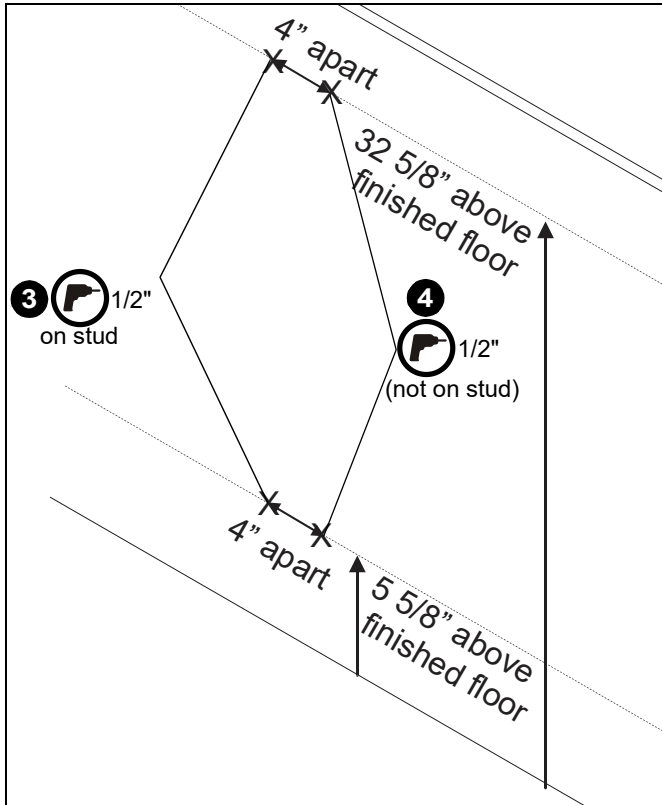

Figure 19
1. Measure $5 \frac{5}{8}$ " off the finished floor to mark lower mounting locations and $32 \frac{5}{8}$ " off the finished floor for upper mounting locations with one of the locations being centered on stud. Holes must be 4" apart horizontally. (See Figure 19)
2. Mark hole locations at each mounting location. (See Figure 19)
3. Drill two $\frac{1}{2}$ " holes at marked hole locations on stud. (See Figure 19)
4. Drill two $\frac{1}{2}$ " holes on marked hole locations NOT on stud. (See Figure 19)